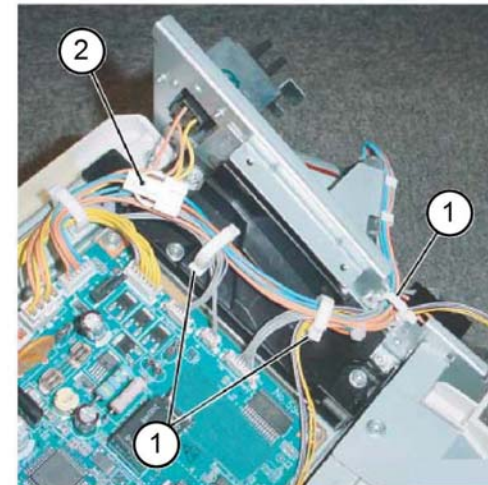

Figure 1 Connector
5. Disconnect the connector, Figure 1:
- a. Release the harness from the three clamps (1).
- b. Disconnect the connector (2).